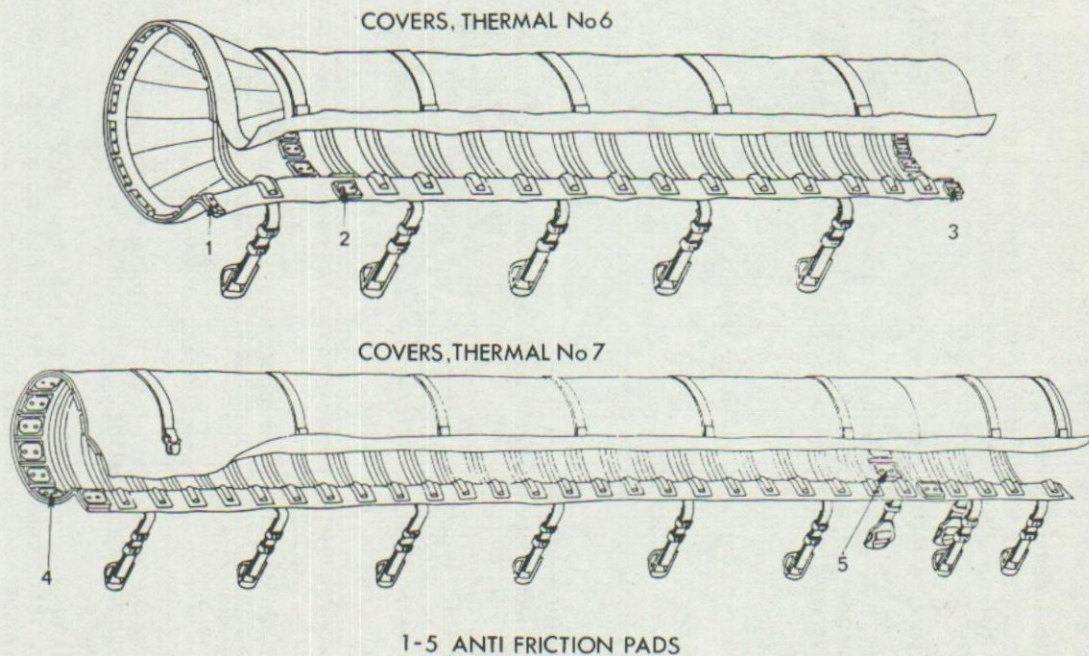

Fig 10 – Thermal sleeve L6A3
- (1) Covers, thermal, No. 6 and 7 (see Fig 10).
- (2) Clamps, loop, No. 1, 2 and 3.
- (3) Clips, hose, worm drive type, 11-in in dia.